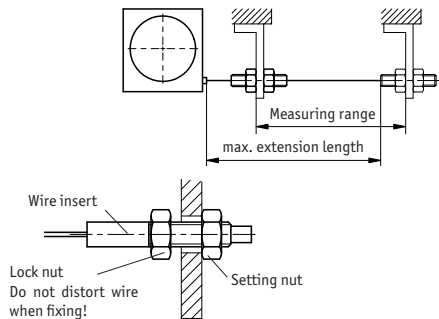

Fig. 2: Extension length check
- After fixing the wire-actuated encoder, check the maximum extension length (see Fig. 2). Pull the wire's end (wire insert, lock nut and setting nut) piece or the wire to the indented fixing point. Do not distort the wire!
Pull out the wire perpendicular to the wire outlet (see Fig. 2)